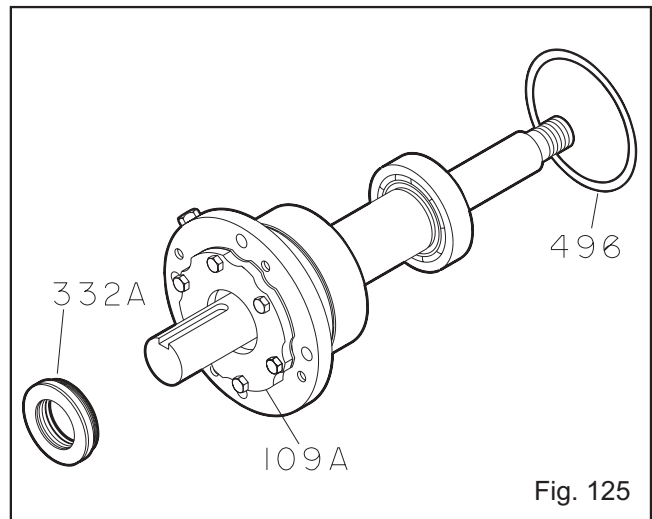

Fig. 125
- Install new O-ring (496) (Fig. 125).
- Install outboard labyrinth oil seal (332A) into end cover (109A). It is an O-ring fit. Position the labyrinth seal drain slots at the bottom 6 o'clock position (Fig. 125).